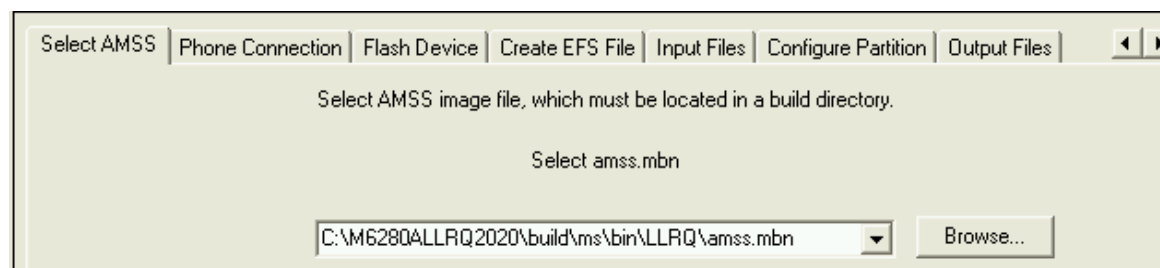

Figure 11-3 AMSS image file selection
7. Under the Select AMSS tab, use BROWSE to navigate to amss.mbn in the target build (Figure 11-3).